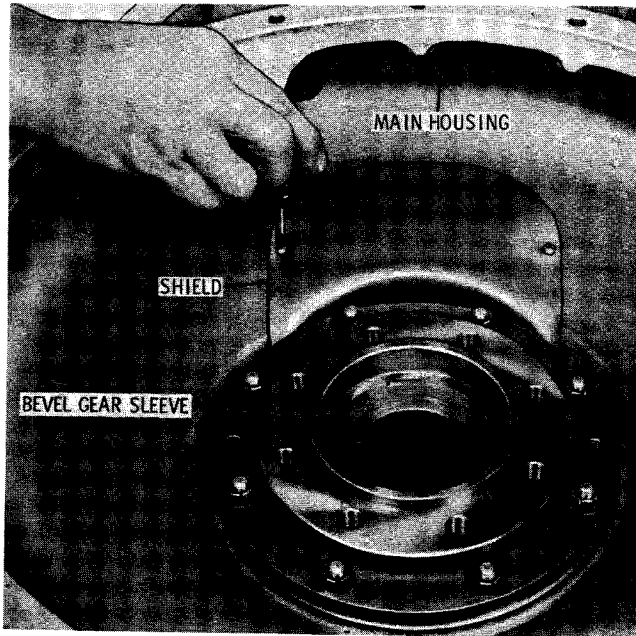

Fig. 5-24. Removing (or installing) oil shield ^{S2024}
(10) Remove the puller screws, and remove hub 8 (B, foldout 12) and retainer 7 from drive plate 2. Using snapping pliers, remove bearing retaining snapping 5 from direct clutch hub 8 and remove bearing 6 and retainer 7.
(11) Remove two screws (fig. 5-24) from the oil shield and remove the shield.
f. Removing Direct, Hydraulic Clutches (VS)